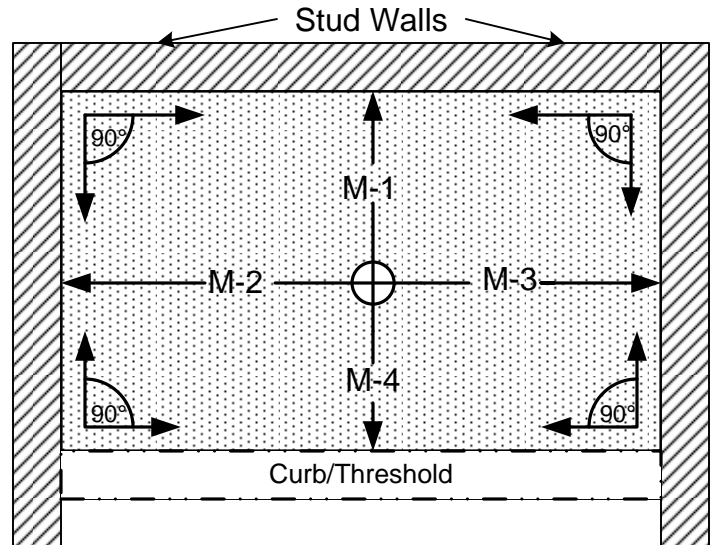

Figure 1
Step 1: Place framing square in corners, at sub floor level, to check angles they should be 90 degrees. (If not, we recommend building a template.) Draw a line on the sub-floor indicating the outside edge of the shower base (Your curb/threshold will butt against this edge. Record the following 4 measurements from the center of drain (M-1, M-2, M-3 & M-4). See Figure 1. Note: If you plan to install the optional flange kit, allow a minimum of 1/8" for the thickness of the flange.